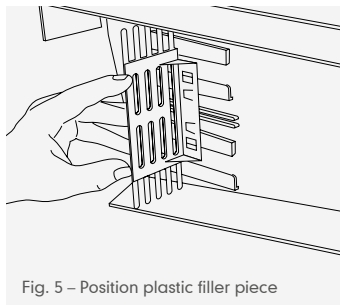

Fig. 5 – Position plastic filler piece
- 5 Slide the plastic filler piece onto the internal rails of the dry verge. The filler piece prevents the ingress of birds and insects and will position onto the two middle rails. Engage and slide the filler piece until it clicks into place, approximately half way down the internal rails. Please note that the filler will only engage if it is the correct way round, as illustrated in Fig. 5.